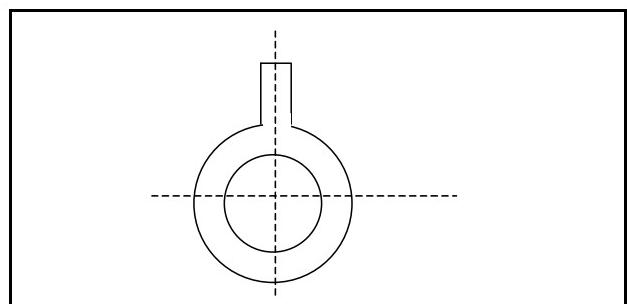

Figure 26. alignment magnet or dummy ring
5. Put each longer knob of alignment magnet together and put each longer knob of dummy ring together (see Figure 26 / No corrective condition)